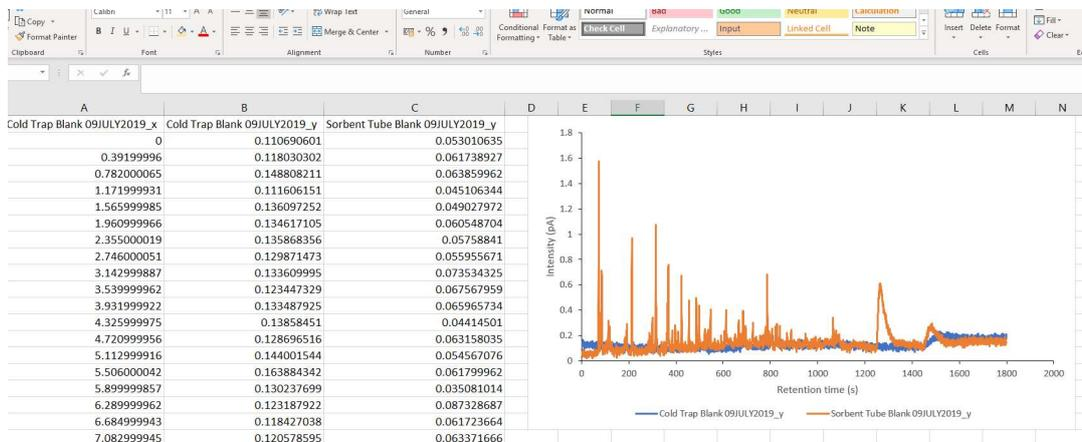

Figure 14. Data analysis on Excel: chromatograms overlay.
3.4.4 In this example, select the three columns. On Excel, go to “insert”, and select “scatter plot with straight lines”. The plot generated will be the same as the one displayed on the FAIMS Viewer (Figure 14).